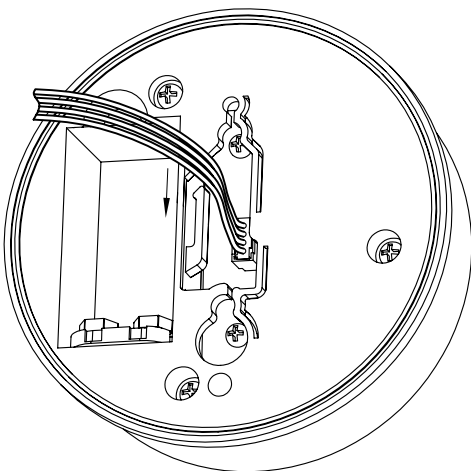

Figure 5
- b) Gently slide the cable into the hook. Propping the hook open a little bit can help fully feed the cable into the hook more easily. The white side of the cable must be facing upfront all the way. (Figure 5 & 6)